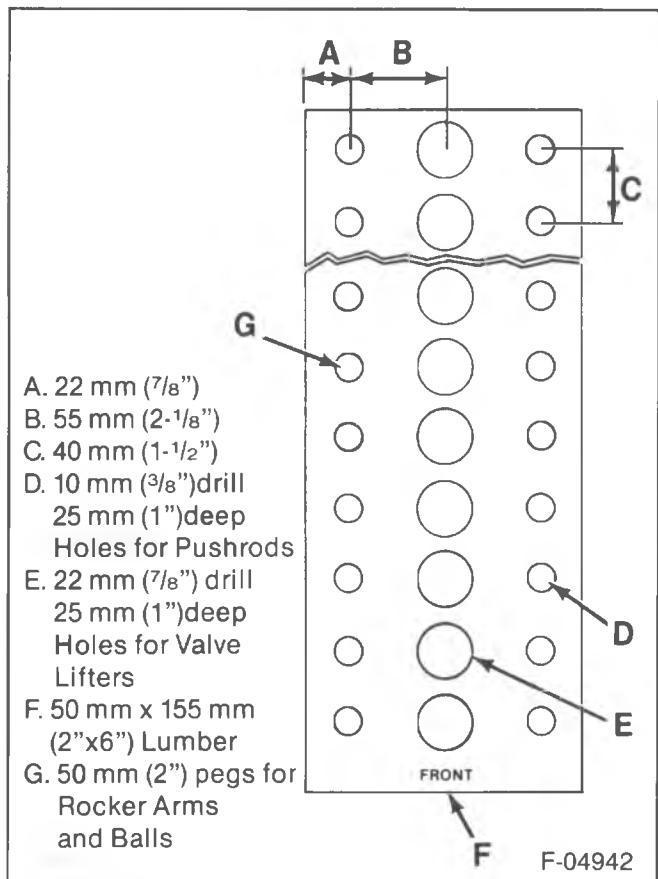
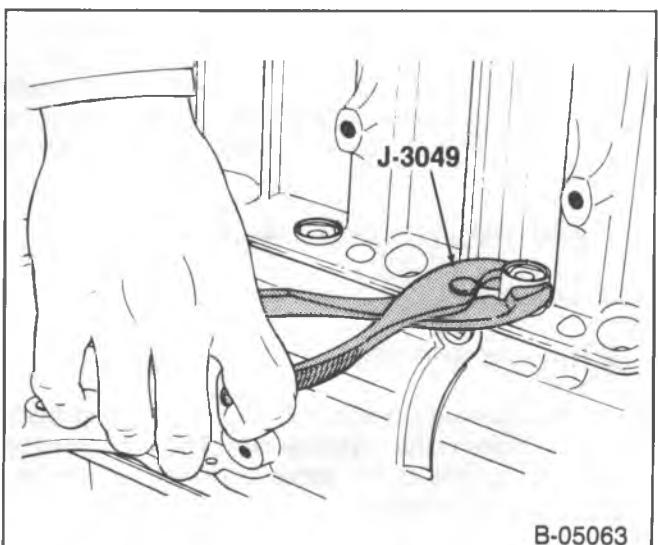
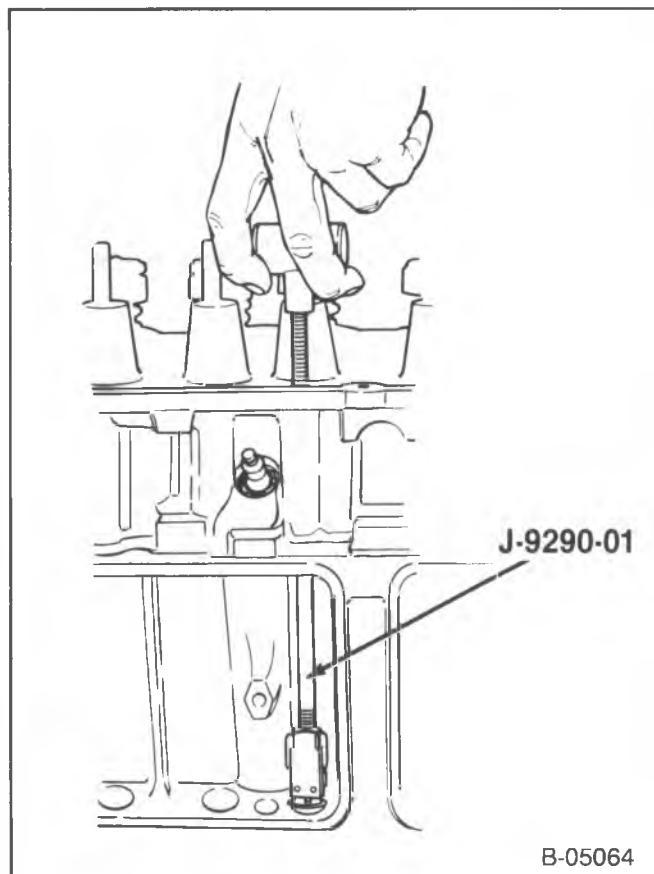

Figure 12—Valve Train Component Rack
Figure 13—Removing the Valve Lifters
Figure 14—Removing the Valve Lifters
1. Rocker arm cover (7).
- If the rocker arm cover adheres to the cylinder head (26), try to shear the gasket by bumping the end of the cover with a rubber mallet. If the cover will not come loose, carefully pry until loose. DO NOT DISTORT THE SEALING FLANGE.
2. Nuts (11), balls (12), rocker arms (13) and pushrods (20).
- Every effort should be made to insure that these mating parts are installed in their original locations during assembly. A simple valve train component organizer rack can be made from a piece of wood, as shown in figure 12.
3. Bolts (178) and pushrod covers (179).
4. Gaskets (114).
5. Hydraulic lifters (100).
- A stuck lifter can be removed using J-3049 (figure 13) or J-9290-01 (figure 14).